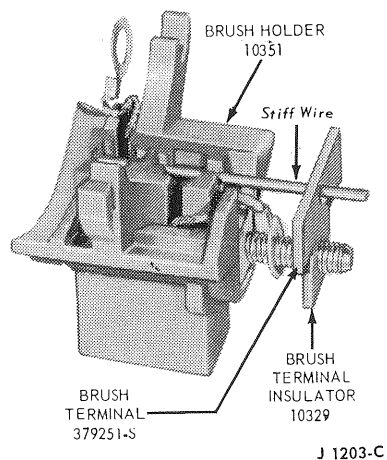

FIG. 19 Brush Holder Assembly
7. Place the brush springs, brushes, brush terminal and terminal insulator in the brush holder and hold the brushes in position by inserting a piece of stiff wire in the brush holder as shown in Figure 19.